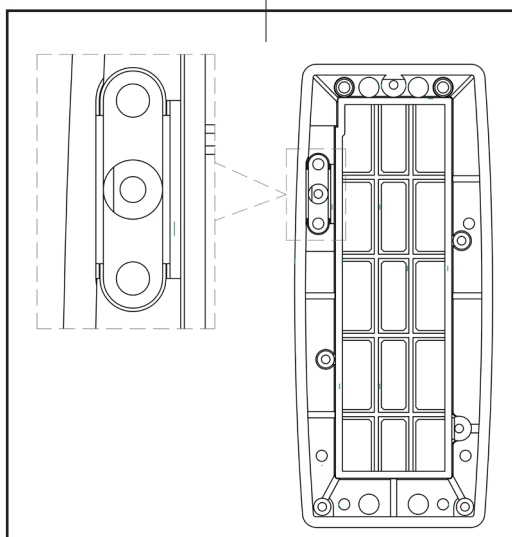

Fig. 4
- Hook it up to the electronic holder side ant screw up the metric screw (ref. H, see fig. 4).